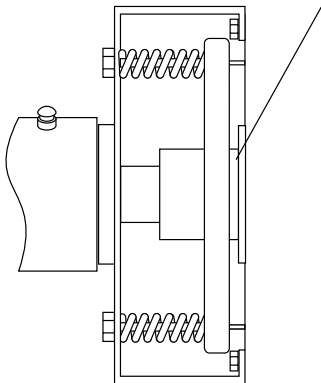

Figure 30. Replacing Drum Seals
3. Once the pressure plate touches the drum, its time to replace the graphite seals (Figure 30).